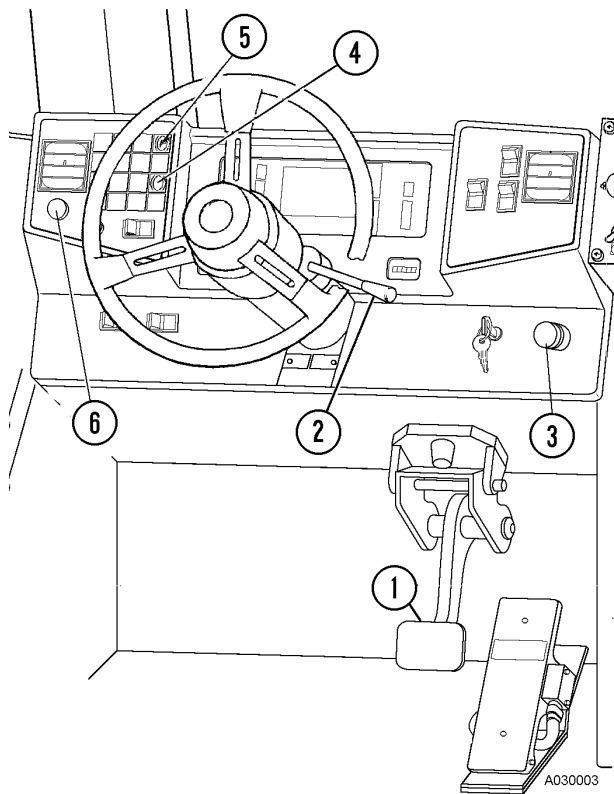

FIGURE 30-1. BRAKE SYSTEM CONTROLS
- a. Depress foot brake pedal (1, Figure 30-1). Verify amber service brake lamp (4) in left pod illuminates.
- a. Move retarder lever (2, Figure 30-1) to maximum retard position (lever down). Verify amber service brake lamp (4) in the left pod illuminates.
- a. Depress parking brake switch (3, Figure 30-1) to the ON (applied) position. Verify the red parking brake lamp (5) in left pod illuminates.
- a. Depress auxiliary brake switch (3, Figure 30-1) to select the ON (applied) position. Verify the internal red lamp and service brake lamp illuminate.